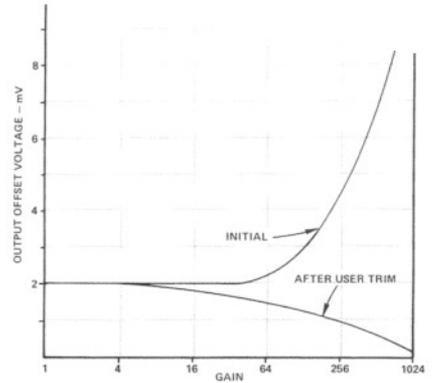
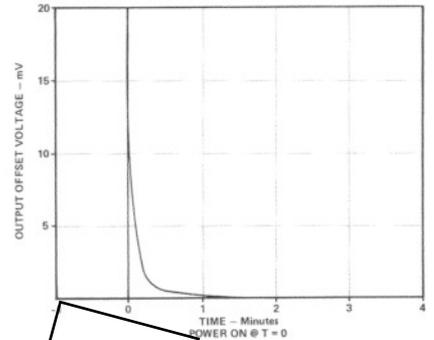
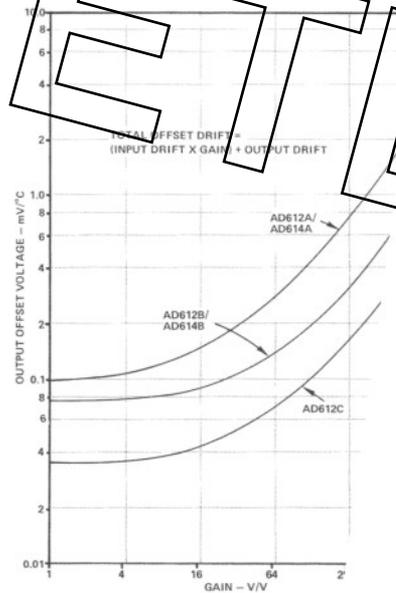

Figure 6. Total Offset Voltage (Typical) vs. Gain (RTI)
Figure 7. Warm-Up Response
Figure 8. Total Offset Voltage Drift (Typical)
**Total Offset Voltage and Offset Voltage Drift:** Total Offset Voltage is composed of two sources (input stage and output stage) and is gain dependent. Figure 6 shows the typical RTO offset voltage vs. gain, both initial and after user trimming @  $G = 1024$ . Warm-up response (see Figure 7 below) is quite fast as is expected from a high performance instrumentation amplifier. The AD612/AD614 are available in three offset voltage drift selections. Figure 8 is a graph of the typical RTO offset voltage drift vs. gain for all versions.